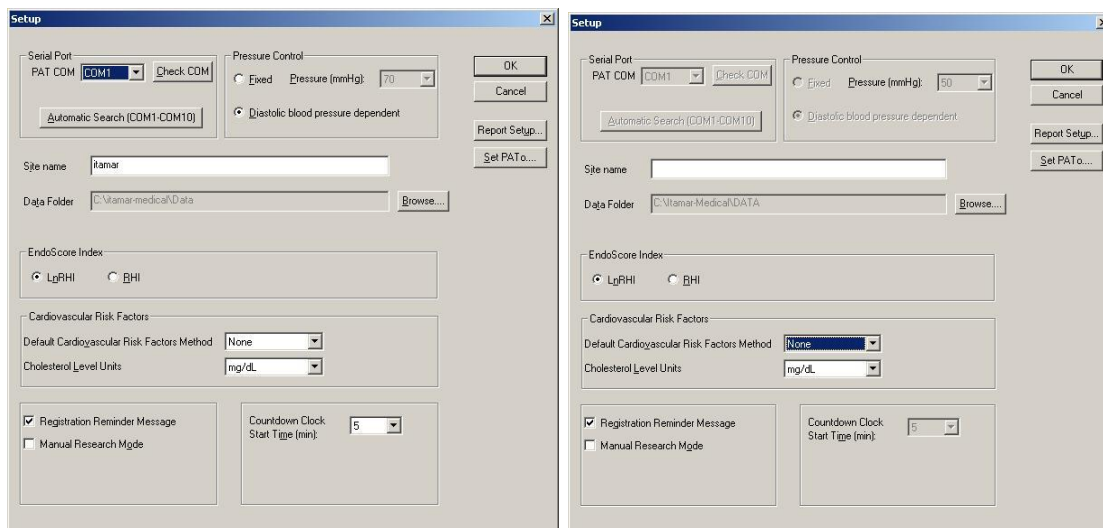

Figure 21 - The setup dialog box (full application and viewer mode)
- Diastolic Blood Pressure – mandatory field, unless the “Fixed pressure” mode was selected in the set-up screen (Figure 21).
- Systolic Blood Pressure – mandatory field, unless the “Fixed pressure” mode was selected in the set-up screen (Figure 21).